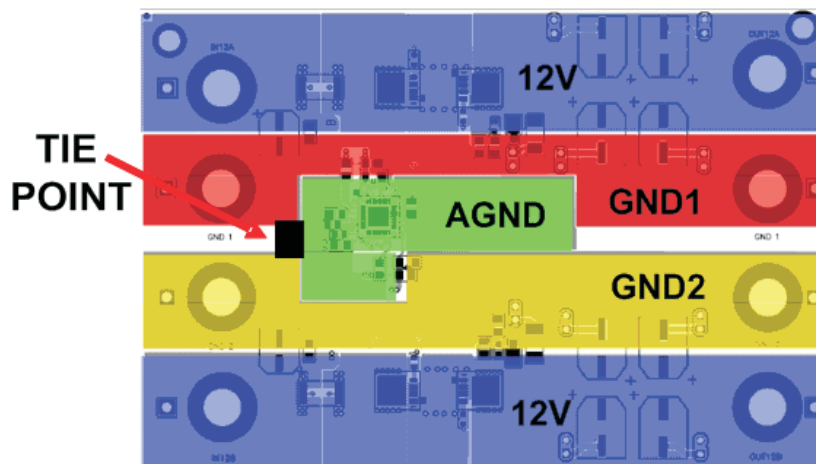

Figure 26.
7. The board should use a single point ground scheme. The current return path for both channels should be isolated from each other as much as possible and tie together at a single point. This helps to reduce ground bounce and false turn offs in one channel when there is a fault in the other channel. Also, sensitive analog grounds (such as the ground connections of R_{MONX} and C_{TX}) should be run separate from the power path grounds. This analog ground must also tie to the two power path grounds at a single point. Figure 26 shows the top layer routing of the TPS2456A EVM which uses a single point ground scheme. Each major power path, the analog ground, and the single point tying them together is highlighted in the figure.